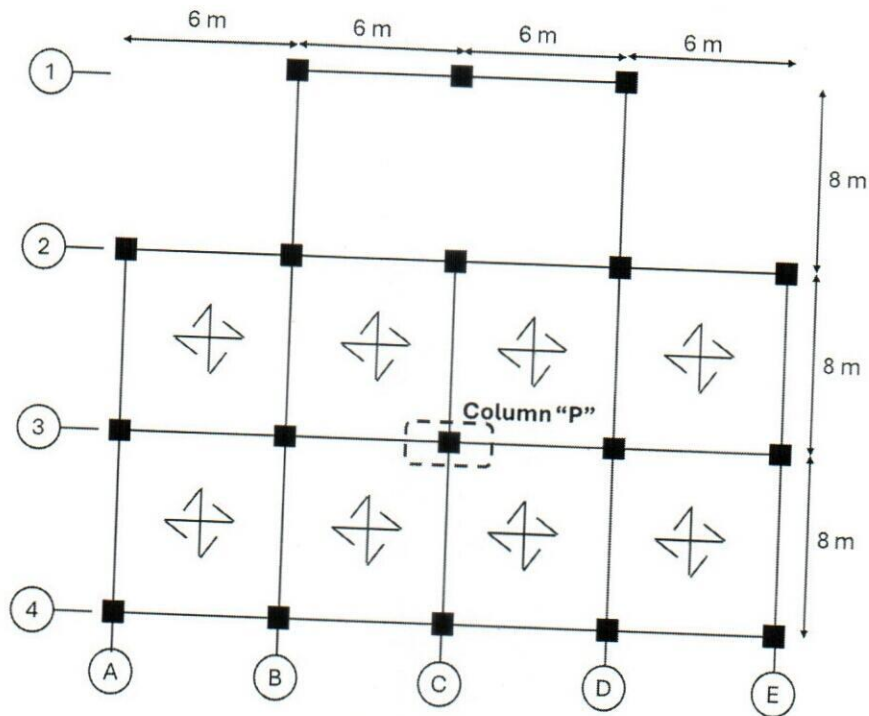

Figure Q4
- a) Figure Q4 shows a plan view of a typical floor on a 4-storey school building (GF, 1F, 2F, 3F and Roof). You are supposed to design the column "P" at ground level, assuming that the column is subjected to an axial load only. The floor-to-floor height is 3.8 m. The density of concrete is 25 kN/m^3 . C40/50 concrete will be used.